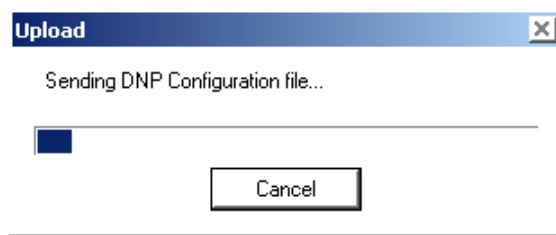

Figure 1-6 Sending DNP Configuration File Status Screen
- b. Select the file to be sent to the control, then select **Open**. IPScorn will initiate the file transfer as indicated by the "Upload" status screen (Figure 1-6), followed by a "DNP File sent successfully" confirmation screen.